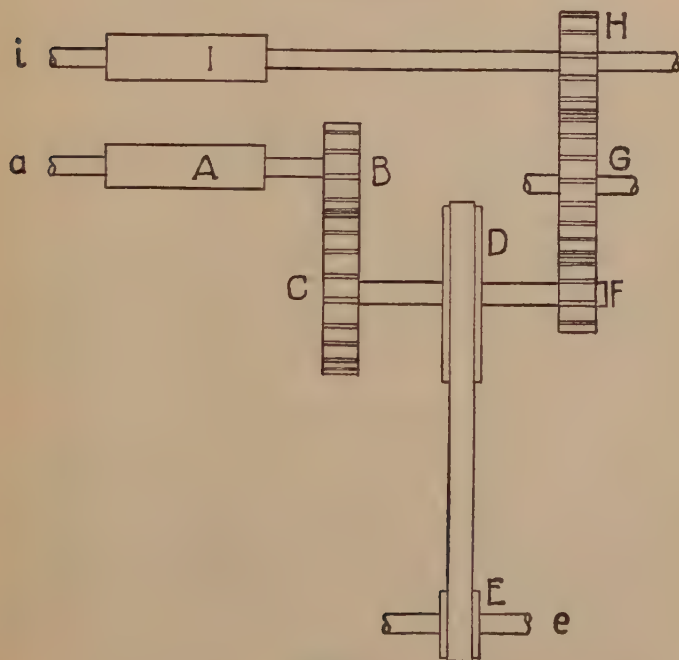

Figure 4
Consider figure 4. Suppose for the present that the power to this train of gears is supplied by the shaft  $a$
**33.** By studying figure 4, answer the following question: When  $i$  is the driver shaft, will the ratio of the S.S. of  $A$  to the S.S. of  $I$  be any different from what it is when  $a$  is the driver shaft, provided all the gears remain the same? Why?
*As a matter of fact the shaft  $e$  is the driver shaft of the train of pulleys and gears in figure 4.*
**36.** By studying equation (23) and figure 4, supply the missing words (*driver* or *driven*, whichever is correct)
37. Granting that shaft  $e$  supplies the power to the train in figure 4, will the speed of shaft  $e$  have any effect upon the ratio of the surface speed of  $A$  to the surface speed of  $I$ ? Why?
38. If  $e$  is the driver shaft, out of the following list, by studying figure 4, pick out those quantities that are directly proportional to the surface speed of  $I$  and those that are inversely proportional to the surface speed of  $I$ , and state why: